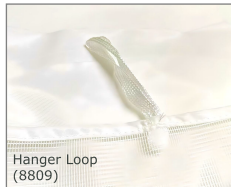

FIGURE 2:
5. FOR 8809 ONLY: Slide hanger loop through top of 3000 mL intravenous bag and rehang on IV pole (Figure 2).